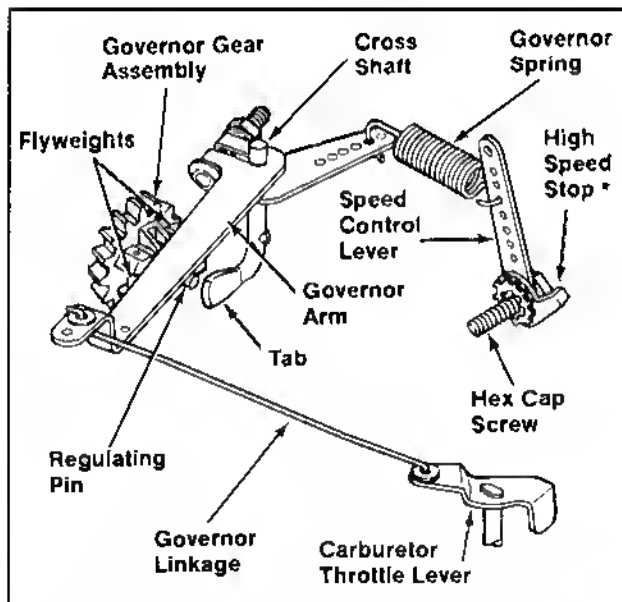

Figure 6A-16. Centrifugal Flyweight Mechanical Governor.
Magnum engines are equipped with a centrifugal flyweight mechanical governor. It is designed to hold the engine speed constant under changing load conditions. The governor gear/flyweight mechanism is mounted within the crankcase and is driven off the gear on the camshaft. Refer to Figure 6A-16.
*NOTE: Earlier models only – later use bracket as shown in Figure 6A-19.